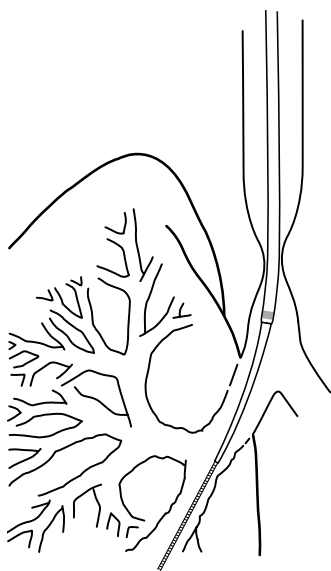

Fig. 1
6. Advance the introducer sheath assembly over the wire guide and position it so that the distal marker of the sheath lies beyond the stricture. (Fig. 1)